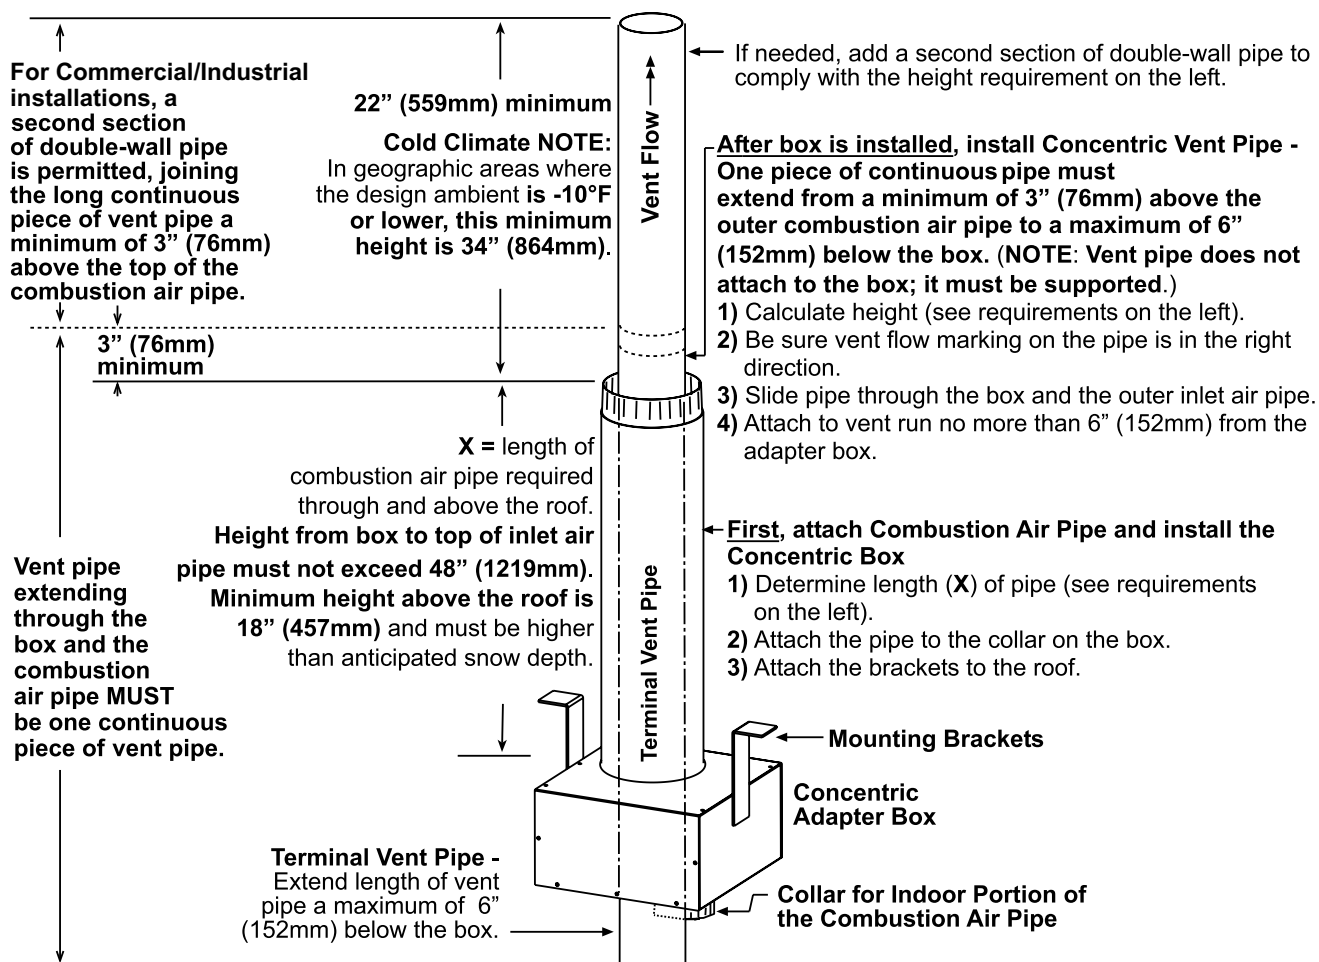

Figure 9. Combustion Air Pipe Installation
5. Connect outside section of combustion air pipe to concentric adapter box (see Figure 9):
- Determine length of combustion air pipe so that dimension X in Figure 9 is equal to bracket length, plus roof thickness, plus anticipated snow depth. Ensure that length of combustion air pipe does not exceed 48 inches (1,219 mm) or does not extend *less than* 18 inches (457 mm) above roof.
6. Secure concentric adapter box to underside of roof (see Figure 9):
- a. Refer to Figure 9 to determine required length of continuous section of vent pipe. Determine length as follows: **1)** start with no more than 6 inches (152 mm) below concentric adapter box, **2)** plus 6 inches (152 mm) through box, **3)** plus length of bracket extending above box, **4)** plus width of roof, **5)** plus height of combustion air pipe above roof, **6)** plus minimum of 3 inches (76 mm) beyond top of combustion air pipe—total is minimum length of vent pipe section.